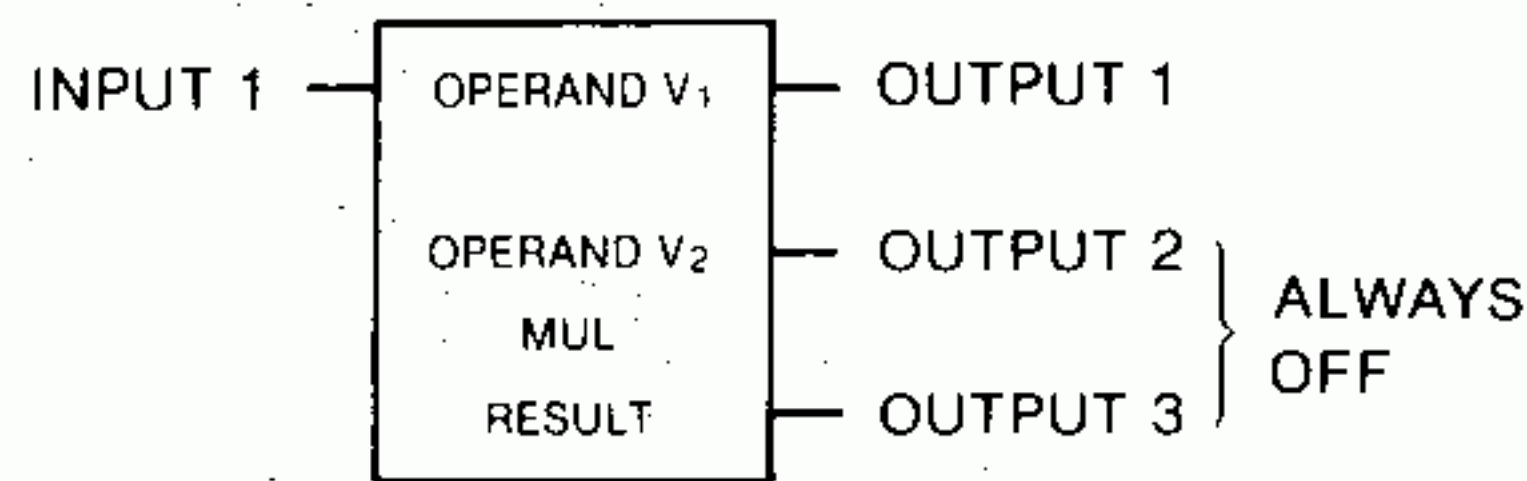

Fig. 5.33 MUL General Form
(2) Form
- Fig. 5.33 shows the form of multiply (MUL).